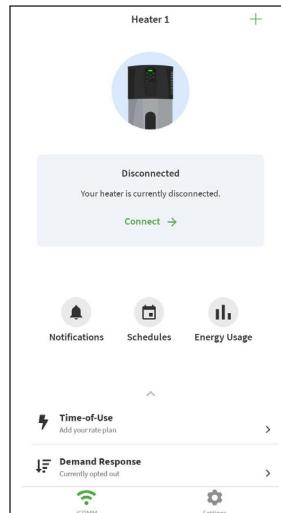

Figure 143 - Connect Heater
**5** Once the water heater serial number has been registered successfully, you will be taken to the water heater home screen and prompted to connect the water heater. Select the option to “Connect” (Figure 143).